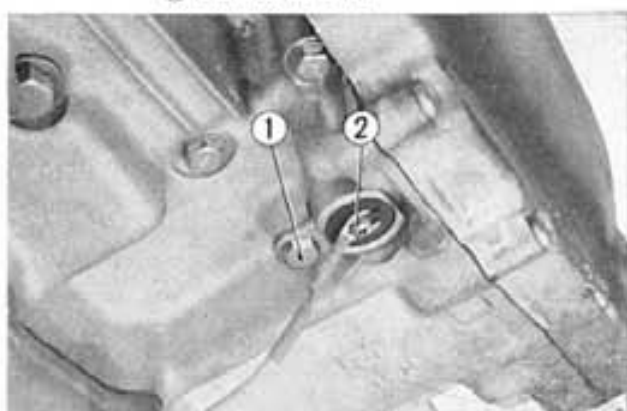

Fig. 16-26 ① Neutral switch mounting bolt
2. Remove the neutral switch mounting bolt from the lower crankcase and remove the neutral switch. (Fig. 16-26)